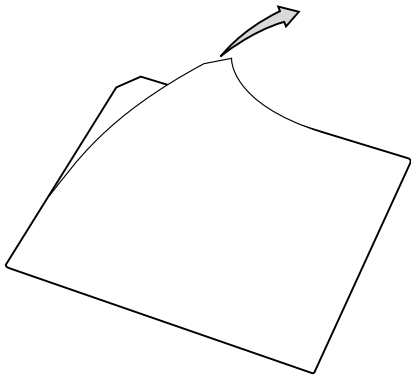

Figure 5. Removing Adhesive Backing
- Peel the protective film from the adhesive side of screen protector as shown in Figure 5.